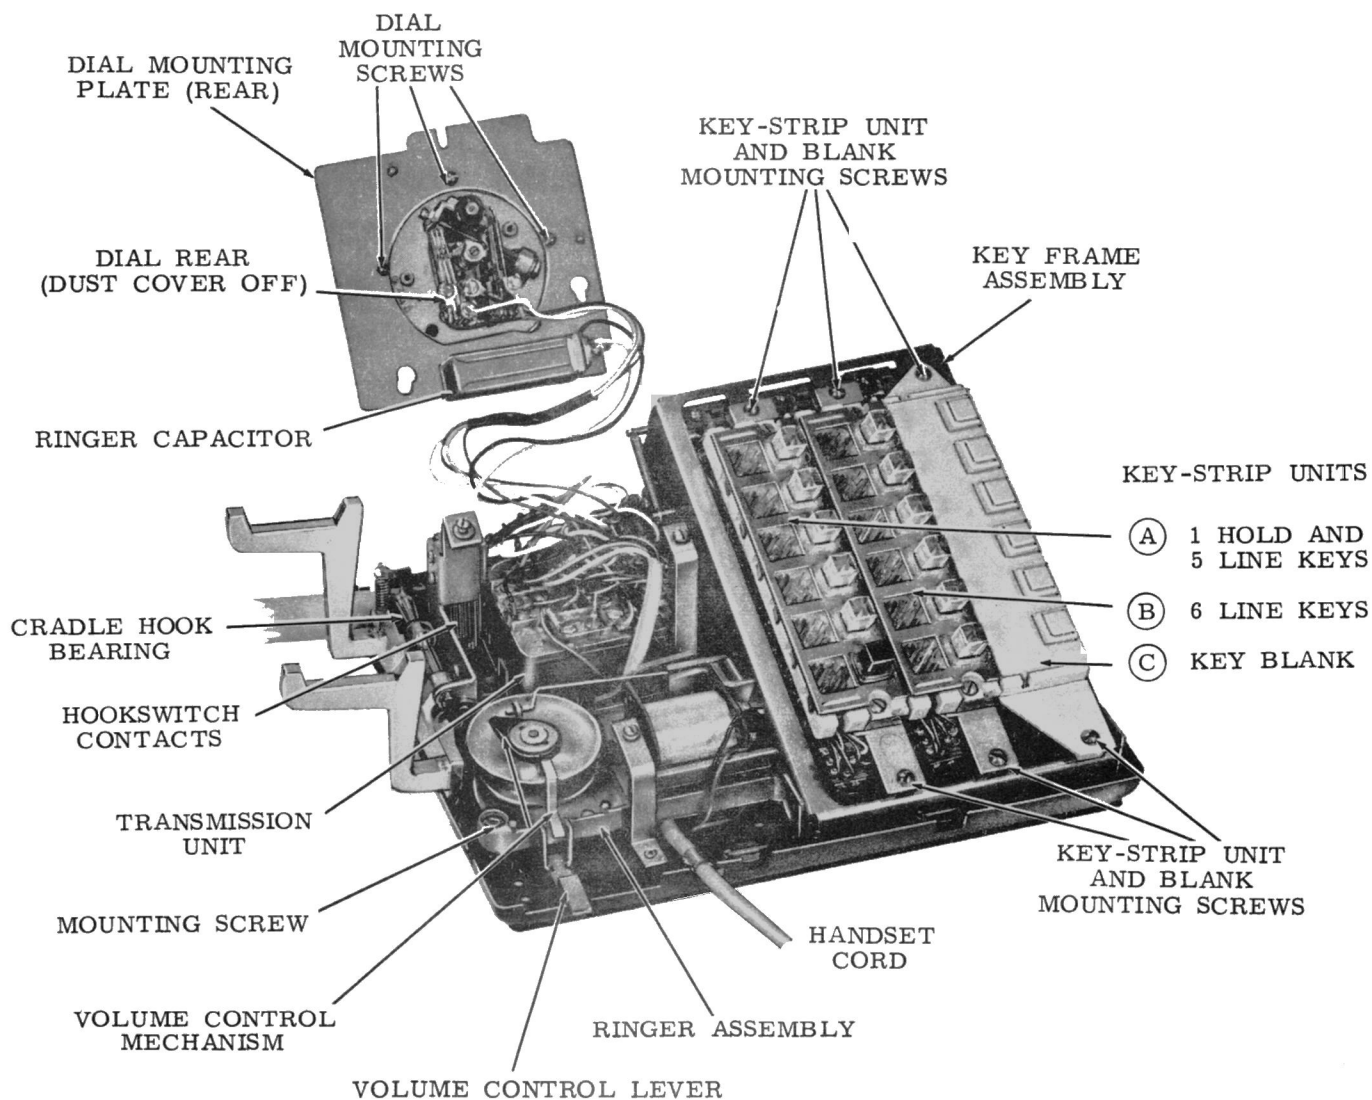

Figure 3. Type 860A with housing removed, and dial assembly raised and inverted.
A lever allows adjustment of the sound of the ringer contained in the housing; this lever projects from the front of the housing, on the left side, near the base (see figure 3).
2.2.1 Remove the key telephone housing as in section 2.1.1 above; remove the key-strip blank by loosening the mounting screws (figure 3) which secure it to the key frame. Remove and discard the plastic dust covers protecting the third plug in the key frame and the receptacle in the key-strip unit.
2.4.1 Remove the key telephone housing cover as in section 2.1.1, and loosen the mounting screws (figure 3) at both ends of the first key-strip unit. Raise the key-strip unit out of the key well in the key frame assembly until the receptacle of the key-strip unit is disengaged from the plug attached to the key frame
The ringer volume control lever (figure 3) projects out from the lower left front of the type 860A key telephone. It is a mechanical device which moves the ringer gong-silencing arm, inside the gong, away from or toward the gong wall. As the clapper arm travel is reduced, the vibrations of the gong, when struck by the clapper, are decreased; this decreases the volume of sound produced. Similarly, when the clapper arm travel is increased, by moving the gong-silencing arm away from the gong wall, the vibrations of the gong increase, thus increasing the volume of sound. The ringer volume control lever may be adjusted to obtain the ringer volume desired. The installer should point out this feature to the subscriber.
Remove the key telephone housing as in section 2.1.1; loosen the three dial mounting plate screws. Move the dial mounting assembly toward the rear of the unit and lift it clear, exposing the transmission pot. Remove the plastic dust cover and disconnect all leads connected to the dial. Loosen the three dial mounting screws (figure 3) and remove the dial assembly from the dial mounting plate. Place the new dial assembly in the dial mounting plate, and tighten the three dial mounting screws. Reconnect the leads (4) to the new dial (see figure 10 for connections). Replace the dial mounting assembly over the transmission pot, tighten the three dial mounting plate screws, and replace the key telephone housing as before.